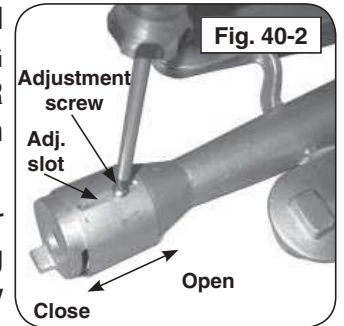

Fig. 40-2
2. Adjust the air shutter opening by loosening the adjustment screw with a screwdriver, then sliding the air shutter backward or forward to open or close the air shutter opening (see Fig. 40-2).